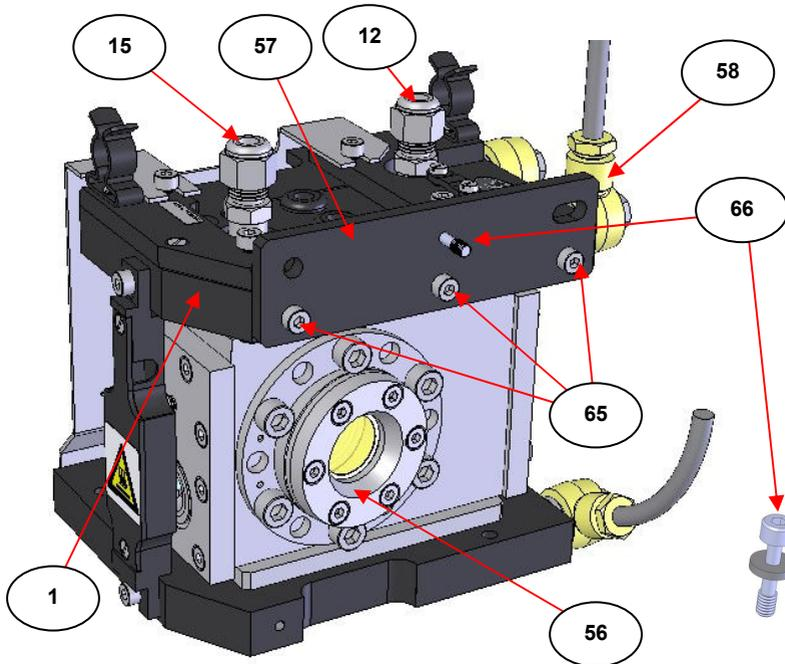

Fig 10. Fitting of the Side Support Plate to the HTHP Cell for a Left to Right Beam Direction Spectrometer
Use the three M4 x 10mm cap head screws (65) supplied to attach the side support plate (57) to the upper water cooled plate (1) of the HTHP Cell on the same side as the wedged window assembly (56). (See **Fig 10.**) There are three threaded location holes in the water cooled plate (1) corresponding with the three holes in the side support plate into which the screws (65) are fitted.
Finally, the supplied M4 x 18mm captive screw fitting with its washer (66) is passed through the central hole between the round hole and slot locations on the side support plate (57) from the direction as shown at Fig 10. This captive screw (66) is used to secure the HTHP Cell to the optical baseplate (OB) assembly when installed upon the adapter baseplate (AB) assembly within a left to right beam spectrometer system sample compartment.